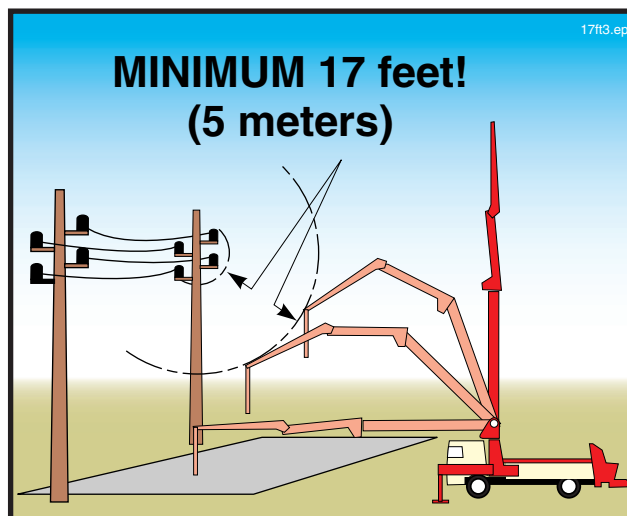

Figure 40
8.8 **⚠ DANGER** You must avoid hazardous proximity or contact with power lines under all circumstances. **Be sure** that you maintain 17 ft. (5 meter) clearance! The 17 foot clearance allows room for the movement of the wires and the boom by wind force, electrical arcing, and human error (Figure 40). **Do not take chances with high voltage; it is the number one killer of concrete pump operators!**